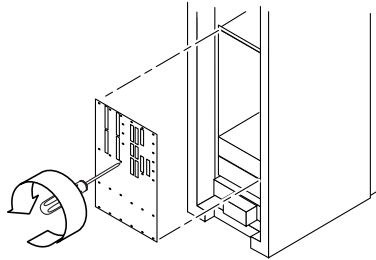

FIGURE 12-18 Removing the System Centerplane— Sun Fire 4810 System
1. Remove the 36 screws securing the system centerplane to the chassis (FIGURE 12-18).
1. Align the system centerplane at the bottom rear of the chassis, and replace the screws (FIGURE 12-18).